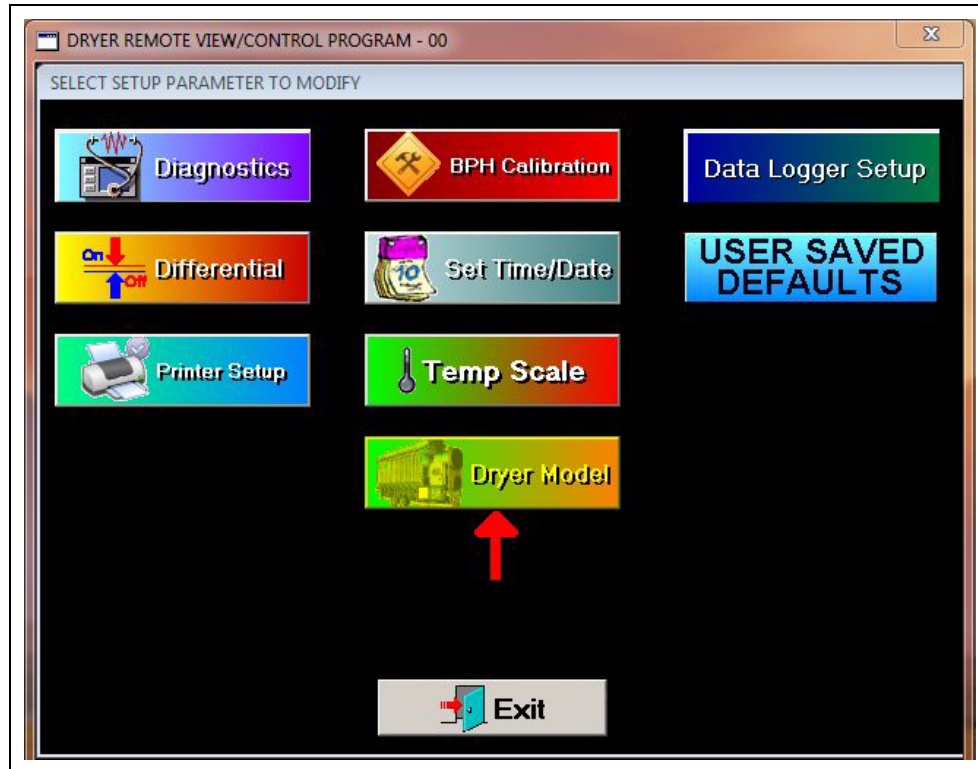

Figure 3E
5. Select Dryer Model on extended setup screen. (See Figure 3E.)